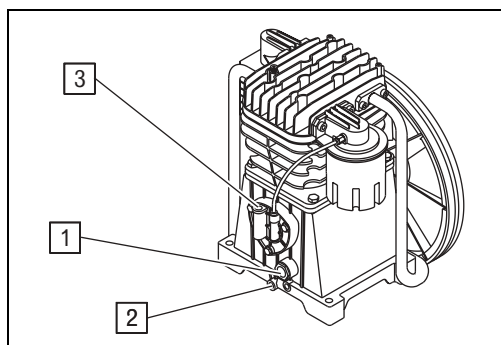

Abb. 1: Compressor aggregate
- ➔ Set the operating switch to position 1 (cf. Fig. 1: Component overview).
- ➔ Set the operating switch to position 0 (cf. Fig. 1: Component overview).
- Place a suitable collecting pan below the condensation water drain on the lower side of the compressed-air reservoir (cf. Fig. 1: Component overview).